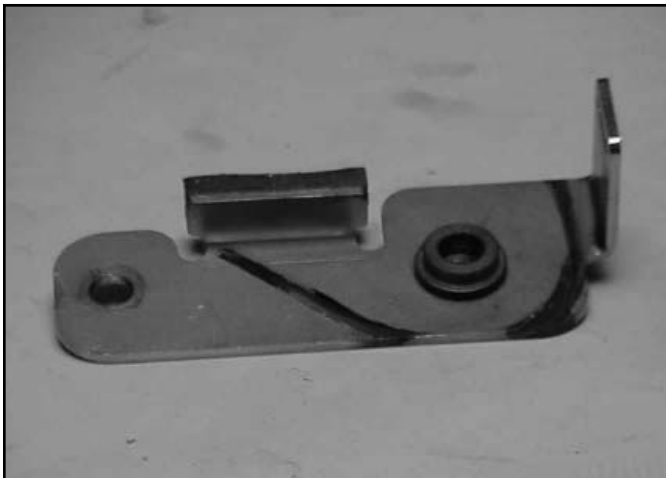

Fig 220
1. Place the spacer with the large diameter down on the brake arm (Fig. 220).